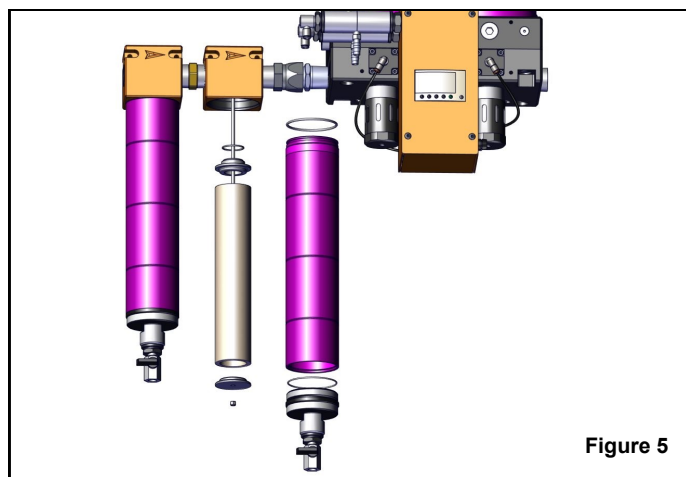

Figure 5
4. Remove bottom baffle, filter element, top adaptor, and O-ring. *Figure 5*